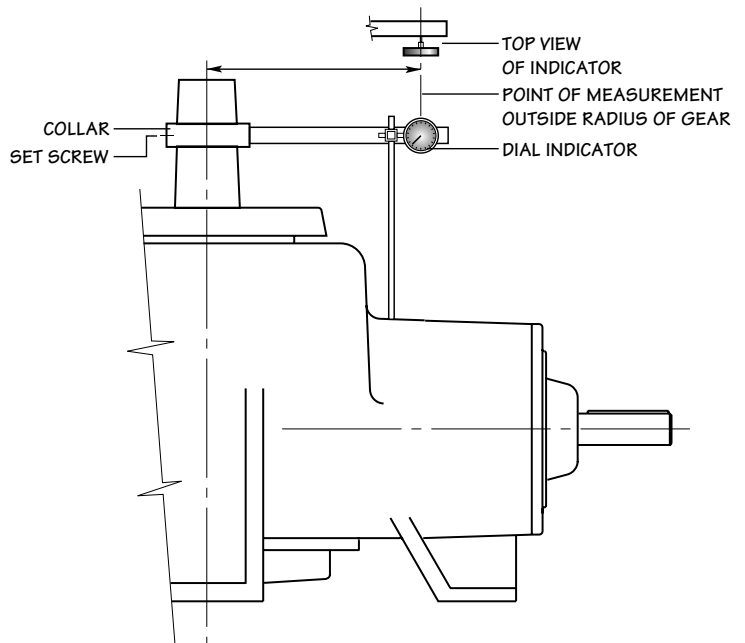

Figure 5 – Gear Backlash Measurement
2. With the "X" marked tooth on the pinion gear engaged between the two "X" marked teeth on the ring gear, check the backlash with a dial indicator as shown in **Figure 5**. Lock the pinion shaft against rotation. The amount of movement of the fan shaft, measured at a distance equal to the outside radius of the ring gear is the backlash. Obtain backlash setting by adjusting ring gear axially by removing or adding shims (420) at bottom bearing cap.